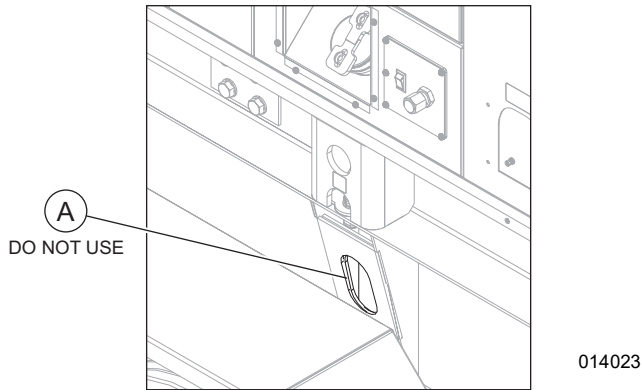

Figure 3-20. NOT Lifting Points (Four Locations)
NOTE: See **Figure 3-20**. Do NOT connect lifting equipment to indicated holes (A).